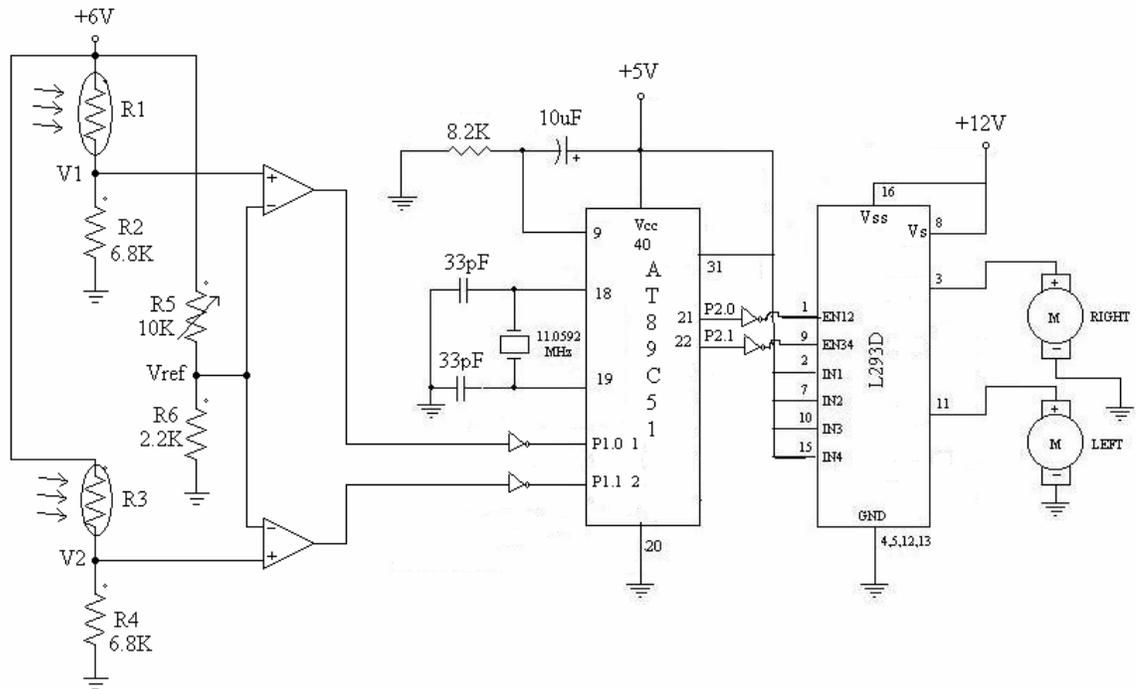

Figure 7.1 Circuit Diagram
- As shown in figure 7.1, the voltages V1 and V2 (across R2 and R4 respectively) are given at the non-inverting terminals of the op-amps. The reference voltage is given to the inverting terminals of the op-amps.